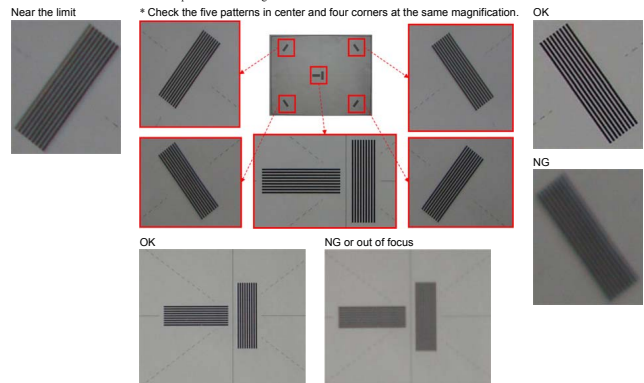

Fig. 4-5-2
1. Set to manual focus on status that the "(1) Preparations" condition.
4. Check the three images to see if the resolution of the patterns in four corners meets the standard shown in Fig.4-5-2.